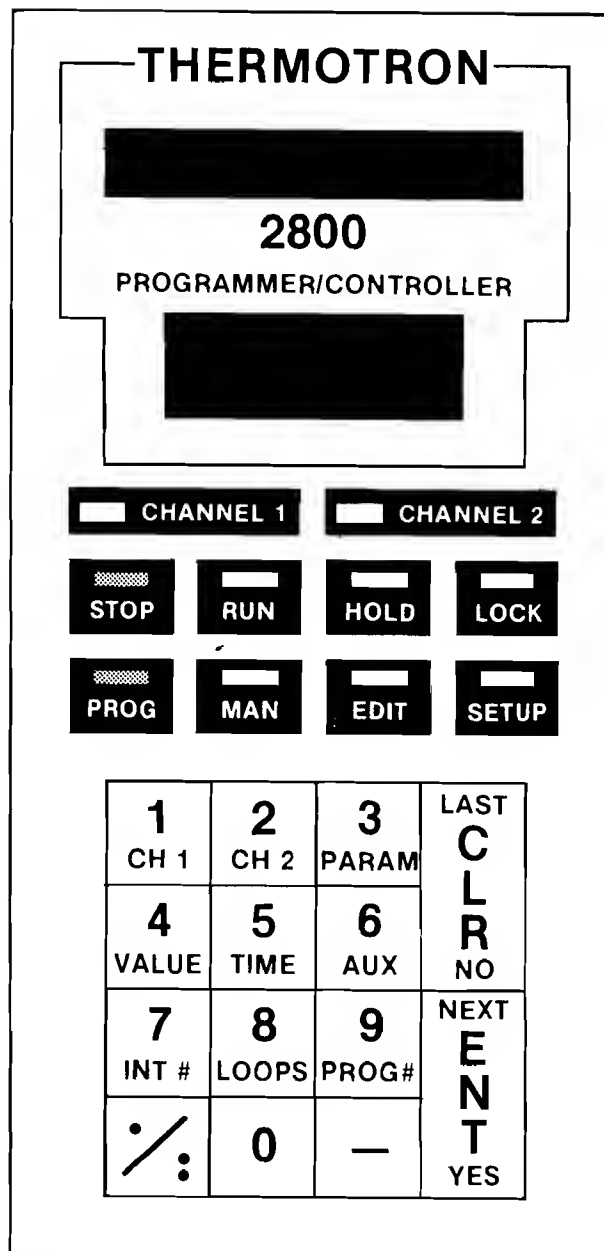

FIGURE 3
1. When the 2800 is in **STOP**, press the **PROG** key. See Figure 3. The 2800 selects the lowest available program number. The display shows **PROG NMBR**.